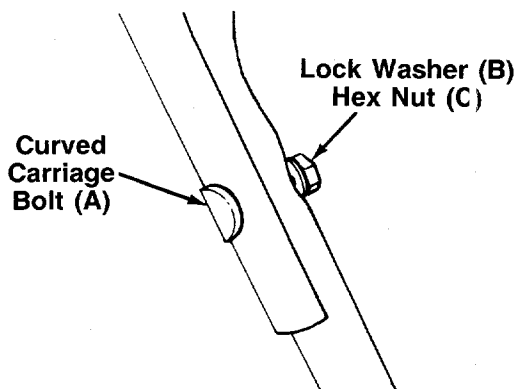

FIGURE 3.
4. Place upper handle in position over lower handle. Control housing should be on the left side of the handle. Secure upper handle with two curved carriage bolts (A), lock washers (B) and hex nuts (C). See figure 3.